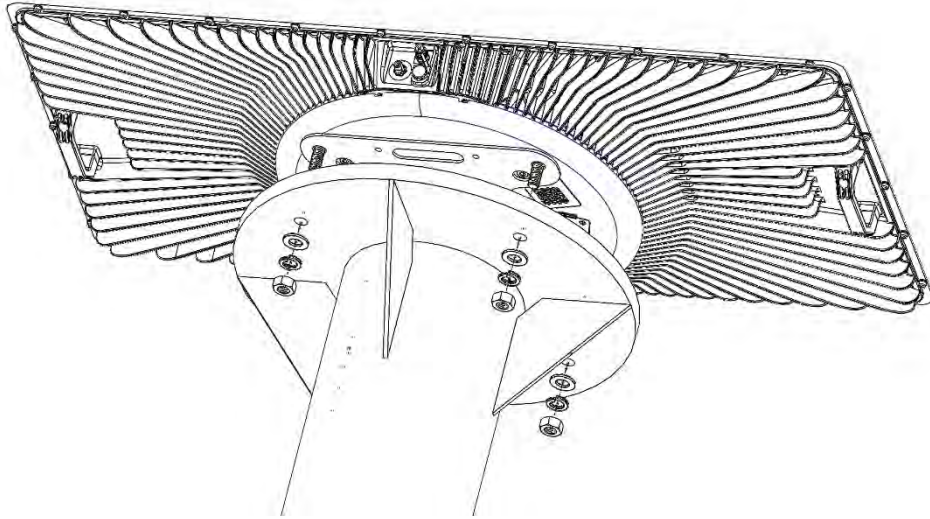

Figure 29: Attach Antenna to Mast
1. With the antenna upside down, take out the screws shown in Figure 29.